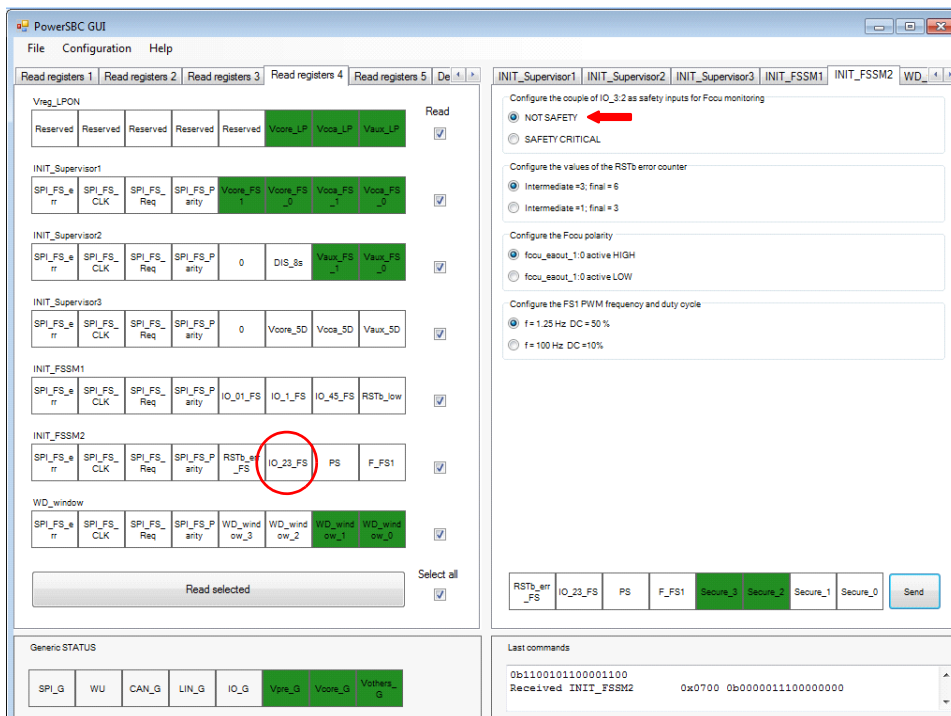

Figure 12. MC33907_8 GUI Register
- In the right side of the GUI, select NOT SAFETY and send command as shown in Figure 12.